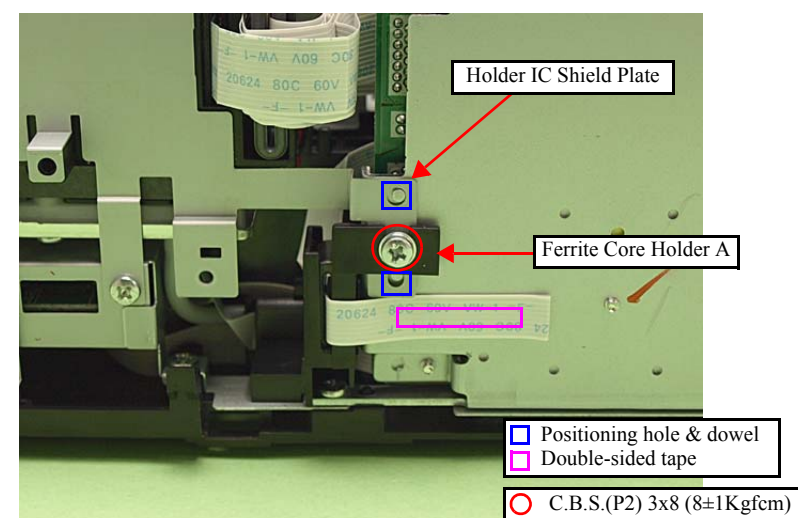

Figure 4-231. Removing the Ferrite Core Holder A
2. Secure the Ferrite Core Holder A and the Holder IC Shield Plate to the Main Board Unit with the screw. (See Fig. 4-231.)